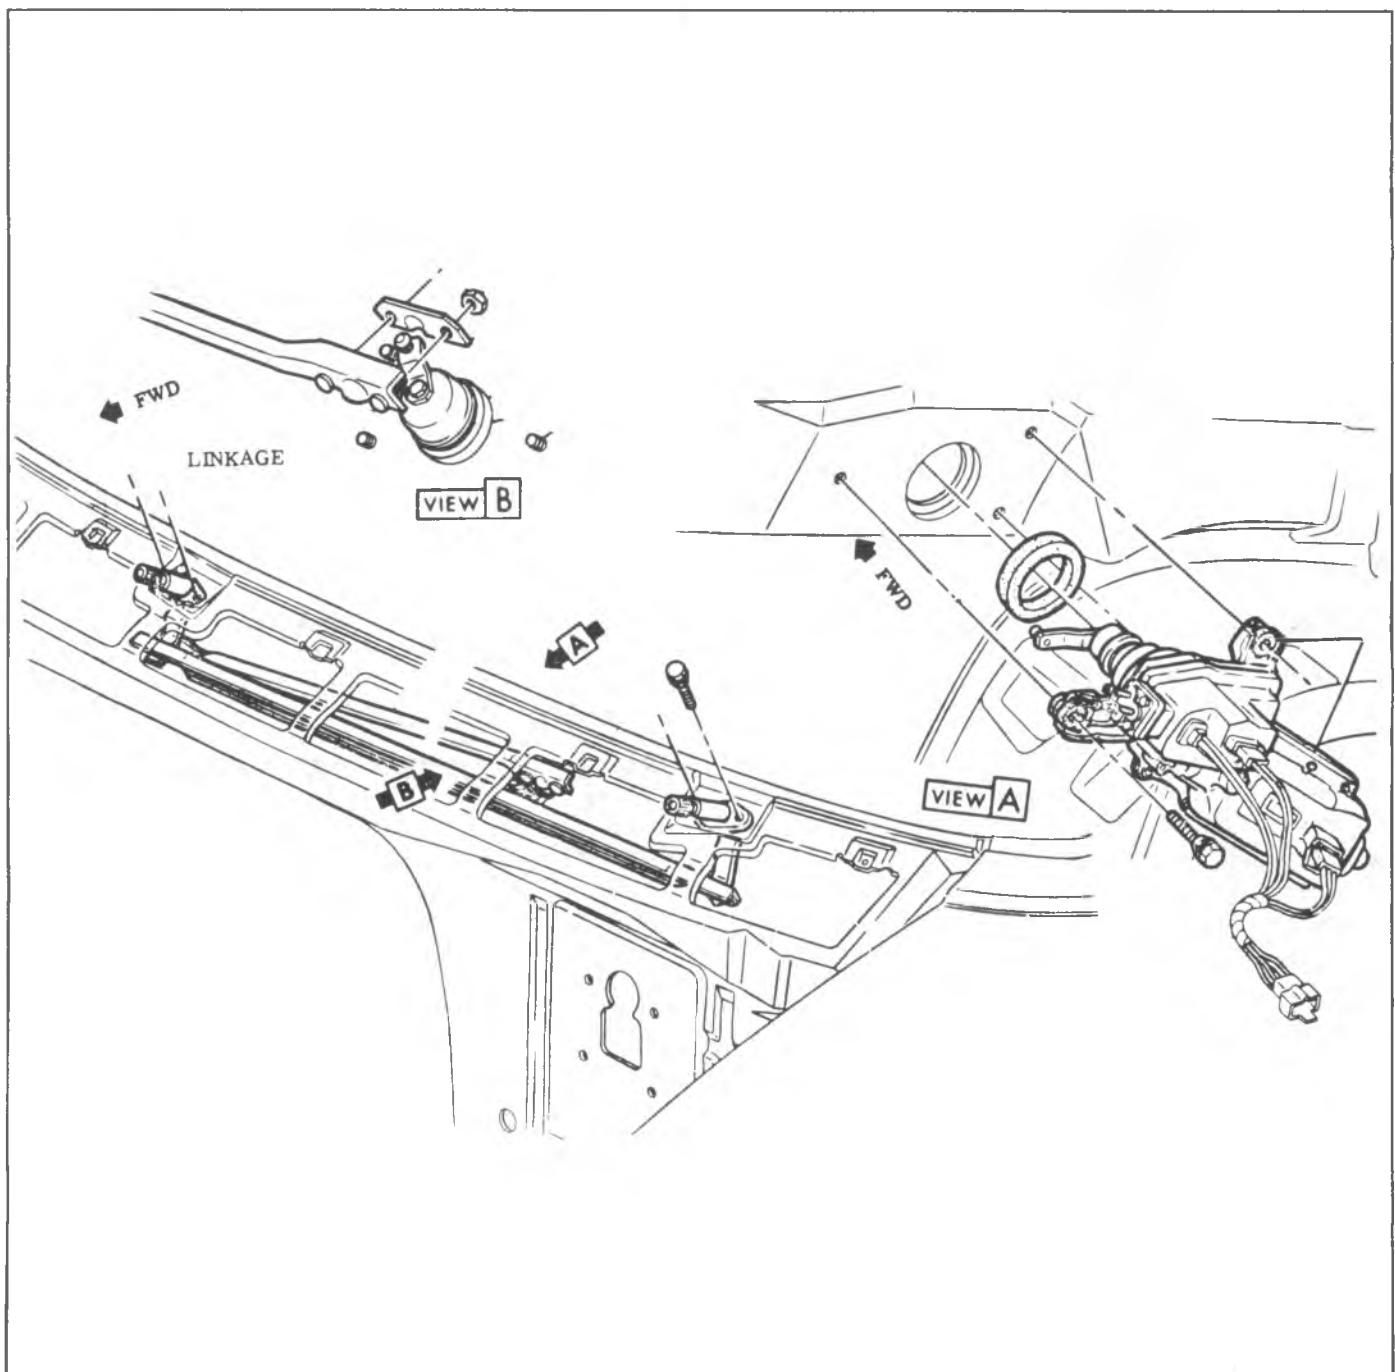

Fig. 8C-18--Wiper Motor (G Series)
1. Release brush spring tension figure 8C-21 and slide brushes back in their respective brush holders.
2. Assemble armature in end cap assembly and reposition brush spring legs behind their respective tabs, figure 8C-22.
3. To maintain the end cap in its assembled position on armature shaft during re-assembly of armature in the wiper housing proceed as follows: Using small wire such as tag wire, tie armature to end cap assembly as shown in figure 8C-23.
CRANK ARM, SPACER, SEAL Refer to Figure 8C-24
2. When re-assembling the crank arm, be sure wiper motor is in park (refer to figure 8C-25), and assemble crank arm on shaft in position shown in Figure 8C-25.